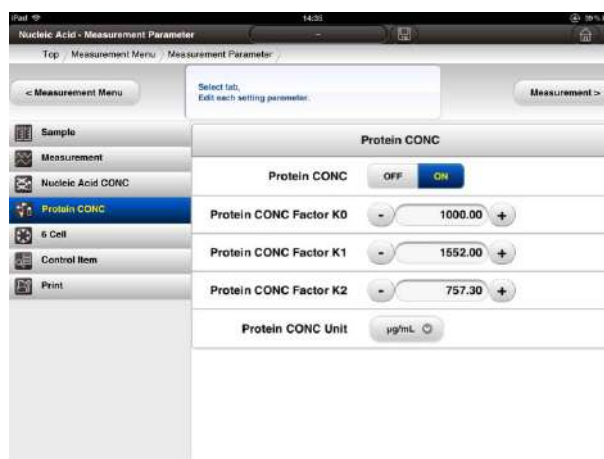

Fig. 4-53 Protein CONC Window
- (1) Press  [Protein CONC tab] to set protein concentration conditions.
- (2) The protein concentration conditions window (Fig. 4-53) will then be shown.